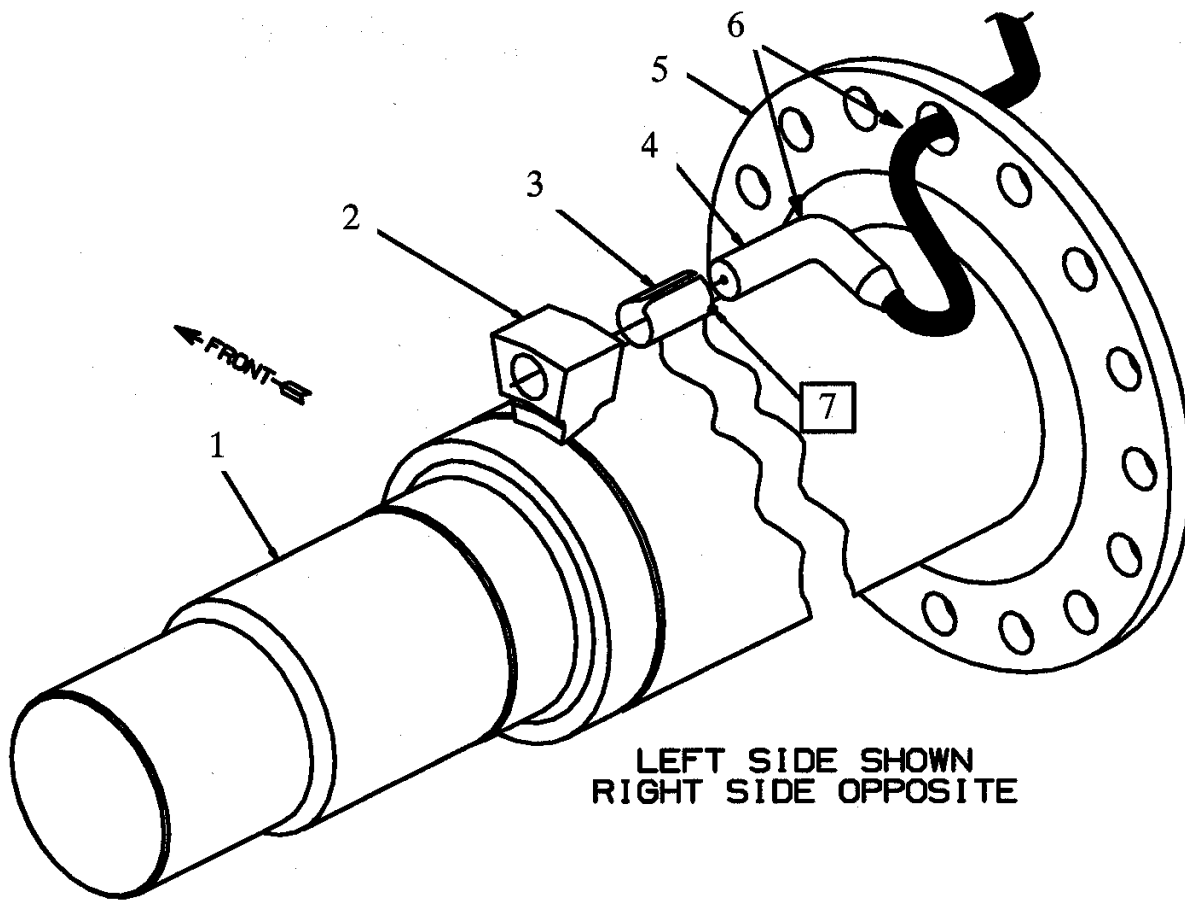
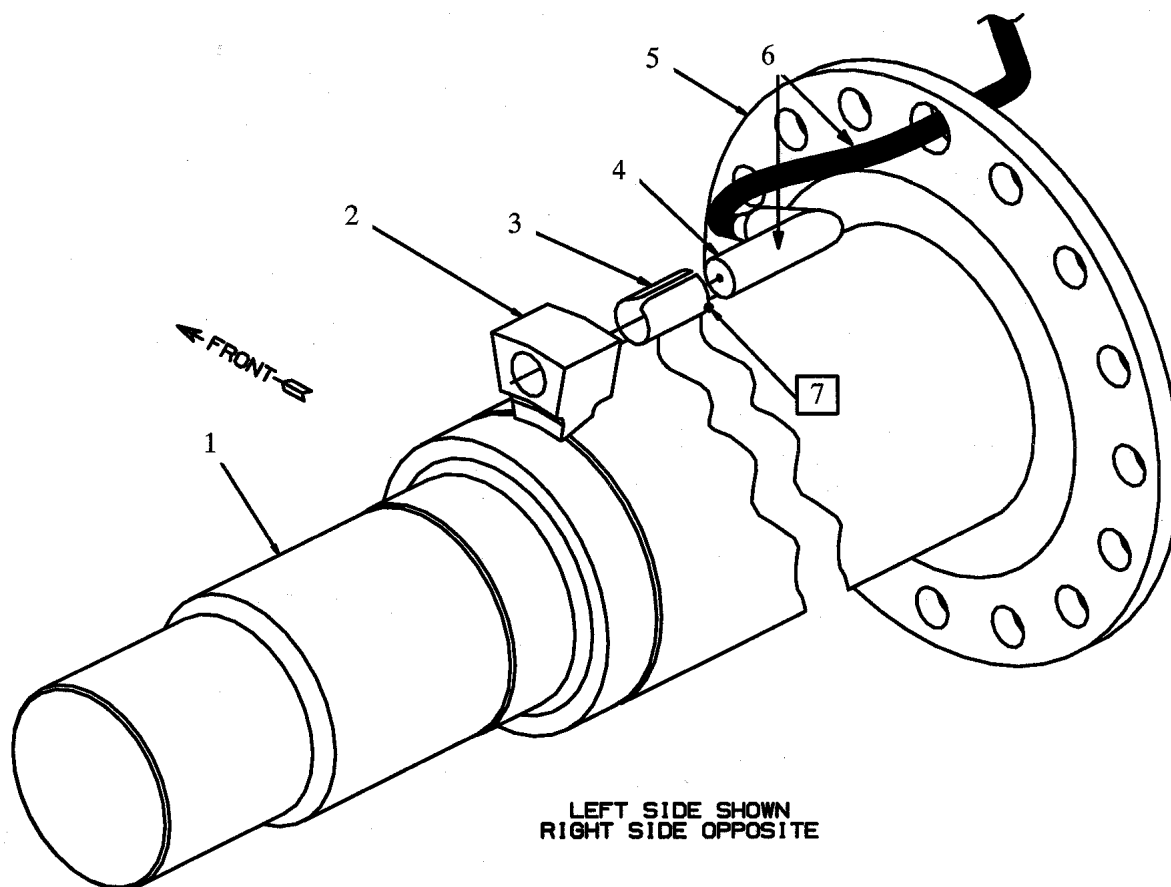

Figure 41 Typical Rear Sensor Installation With Air Suspension
Figure 42 Typical Sensor Installation With 4 Spring Suspension
6. **Rear Sensor**— Install the sensor into retainer and sensor mounting block from the axle side in a horizontal position with the "cable end" of the sensor positioned as shown in Figure 41 or Figure 42 , depending on suspension type. Push the sensor in as far as possible through the mounting block. No further adjustment is necessary.